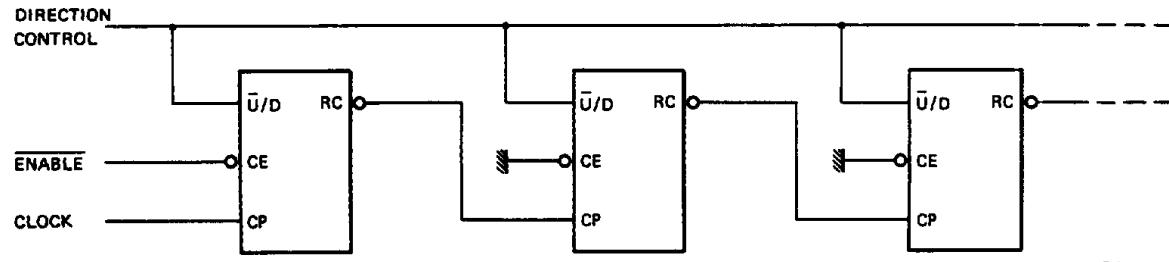
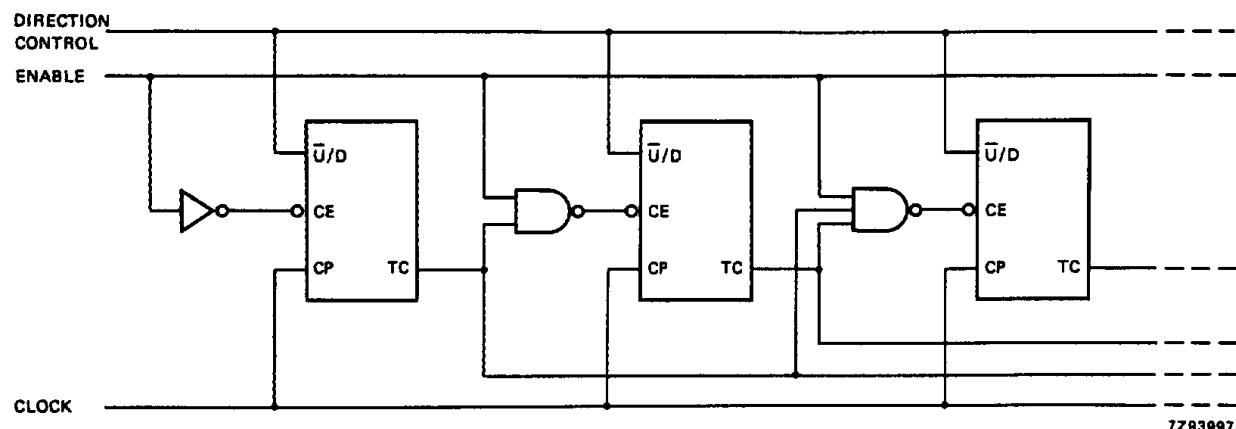

Fig.5 N-stage ripple counter using ripple clock.
Fig.7 Synchronous n-stage counter with parallel gated carry/borrow.
Overflow/underflow indications are provided by two types of outputs, the terminal count (TC) and ripple clock ( $RC$ ). The TC output is normally LOW and goes HIGH when a circuit reaches zero in the count-down mode or reaches "15" in the count-up-mode. The TC output will remain HIGH until a state change occurs, either by counting or presetting, or until  $U/D$  is changed. Do not use the TC output as a clock signal because it is subject to decoding spikes. The TC signal is used internally to enable the  $RC$  output. When TC is HIGH and  $CE$  is LOW, the  $RC$  output follows the clock pulse (CP). This feature simplifies the design of multistage counters as shown in Figs 5 and 6.
In Fig.5, each  $RC$  output is used as the clock input to the next higher stage. It is only necessary to inhibit the first stage to prevent counting in all stages, since a HIGH on  $CE$  inhibits the  $RC$  output pulse as indicated in the function table. The timing skew between state changes in the first and last stages is represented by the cumulative delay of the clock as it ripples through the preceding stages. This can be a disadvantage of this configuration in some applications.
In Fig.7, the configuration shown avoids ripple delays and their associated restrictions. Combining the TC signals from all the preceding stages forms the  $CE$  input for a given stage. An enable must be included in each carry gate in order to inhibit counting. The TC output of a given stage is not affected by its own  $CE$  signal therefore the simple inhibit scheme of Figs 5 and 6 does not apply.